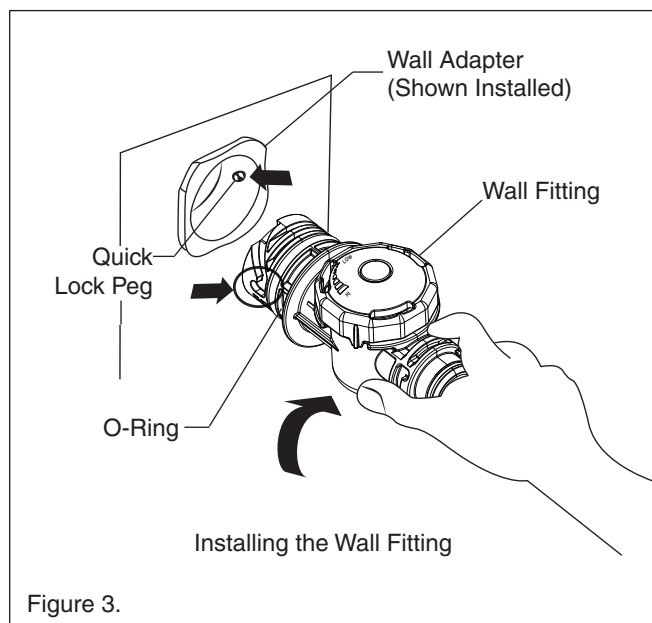

Figure 3.
4. Insert wall fitting adapter into the dedicated 1-1/2" NPT threaded return line. Hand tighten until snug. **See figure 3.**
5. Align wall fitting with the quick lock pegs inside the wall adapter. Push the wall fitting into the wall adapter until it bottoms out. Twist 1/4 turn clockwise to lock the wall fitting. **Pull gently outward to engage quick lock pegs.** See figure 3.